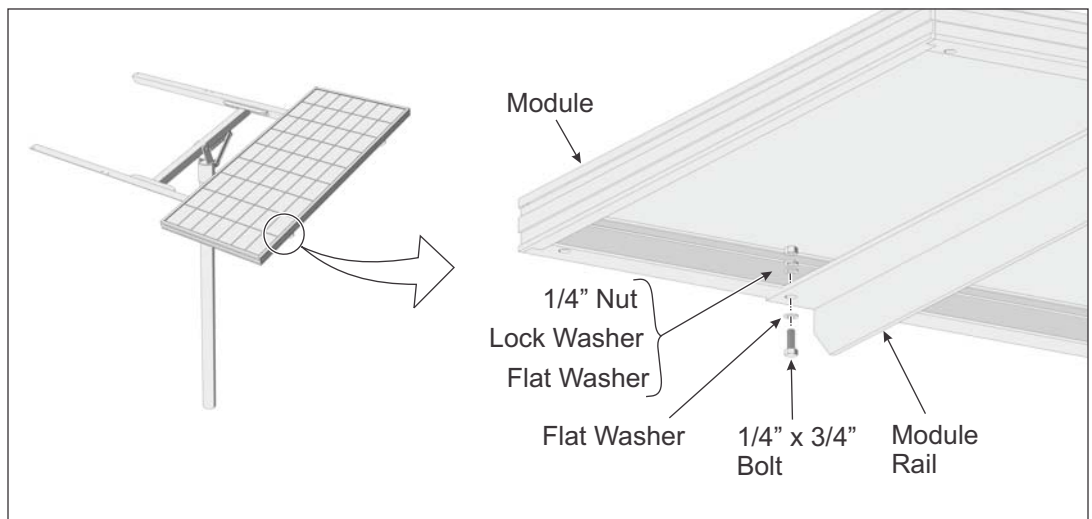

Figure 4-1: Installing PV Modules to Module Rails
- Place the PV Module on the Module Rails. Align the mounting holes and secure with 1/4" x 3/4" bolts and hardware. Each Module has four attachment points. Finger-tighten for now. (See Figure 4-1)